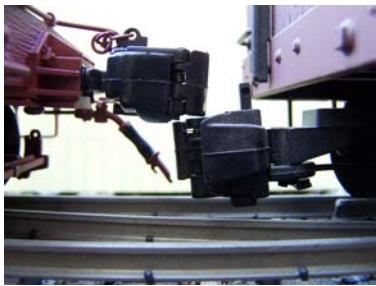

Fig 1
- The couplers pass one on top of the other and do not couple at all (*fig 1*).